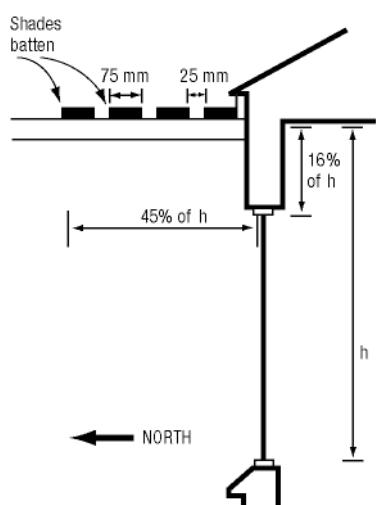

Figure 5.18: Use of shade battens on pergolas
- > Shade battens on pergolas are a commonly used horizontal shading device. The amount of shading they provide depends on the spacing between them. This spacing should be no greater than one-third of the battens' width (see figure 5.18).